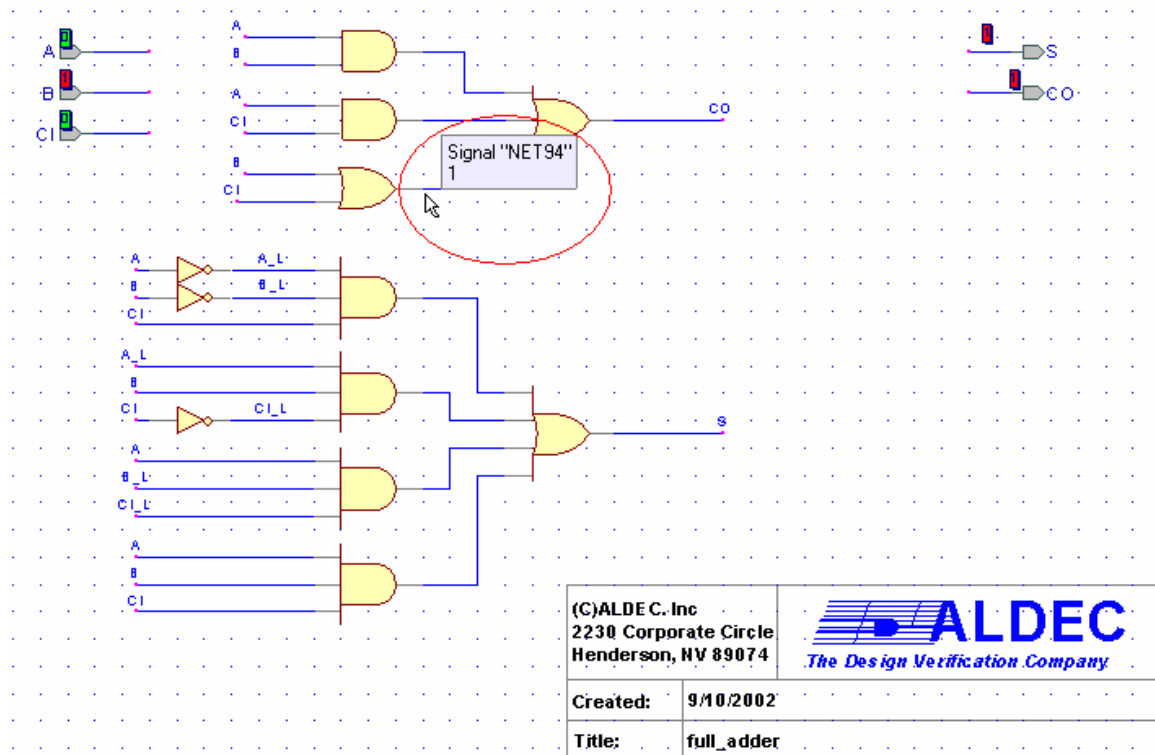

Figure 45
- The sum waveform showed that the sum was correct. Therefore, we focused on the carryout logic. When running a simulation, there are boxes next to each input and output signal in the schematic that display their values throughout the simulation. A green box means the signal is low (0), a red box means the signal is high (1), a yellow box (z) means the signal is unconnected, and a blue box (x) means the signal is unknown. We noticed that after running the simulation for 10 ns that the box next to the carryout output terminal was red (see Figure 45 on the next page). Using the mouse-over feature, we traced the signal from the carryout terminal all the way back to the input signals.